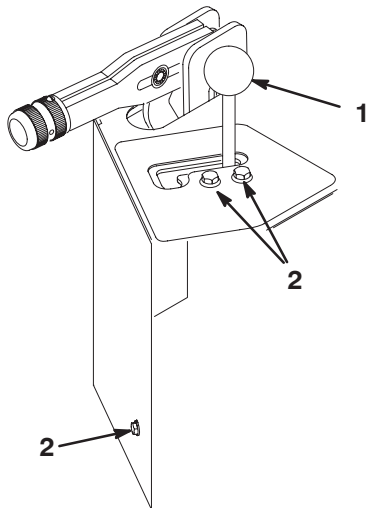

Figure 26
3. Remove the knob from the lift lever (Fig. 26).
4. Remove the (3) mounting screws and remove the valve shroud (Fig. 26).